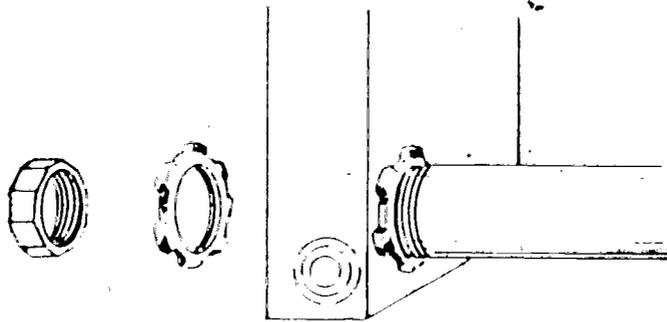

FIGURE 1.
- D. Install nipple in opening with a locknut on the backside of load center and a locknut and bushing on the inside (Figure 1)